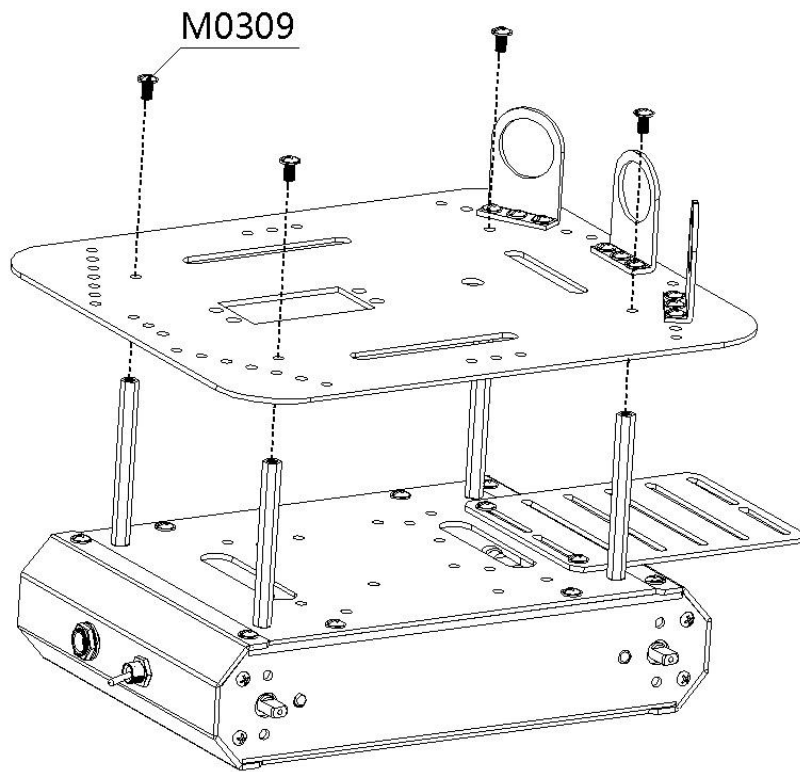

Figure 4-10
16. Figure 4-10; use flange screws to fix the top plate on to the Copper stand-offs.